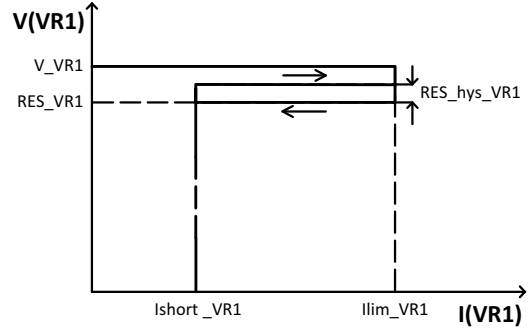

Figure 6. VR1 current fold-back
- ◆ ·VR1 Current Limitation – the two-level current limitation controlled by VR1 reset comparator to reduce the power dissipation in case of shorts to ground by the current fold-back (see Figure 6)